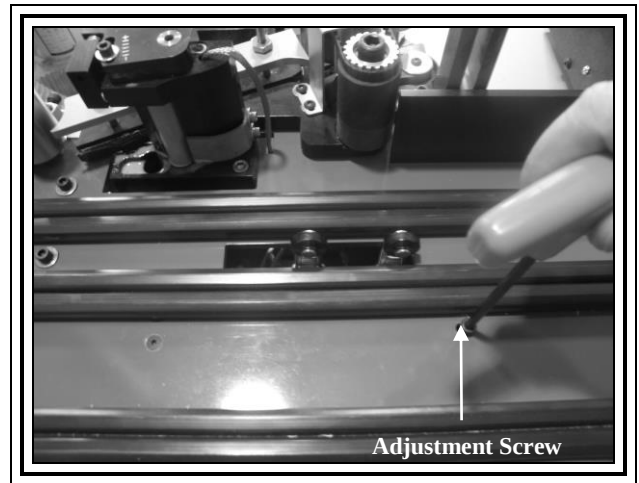

FIGURE 17
11. Rear Tape Length Adjustment (Figure 17)